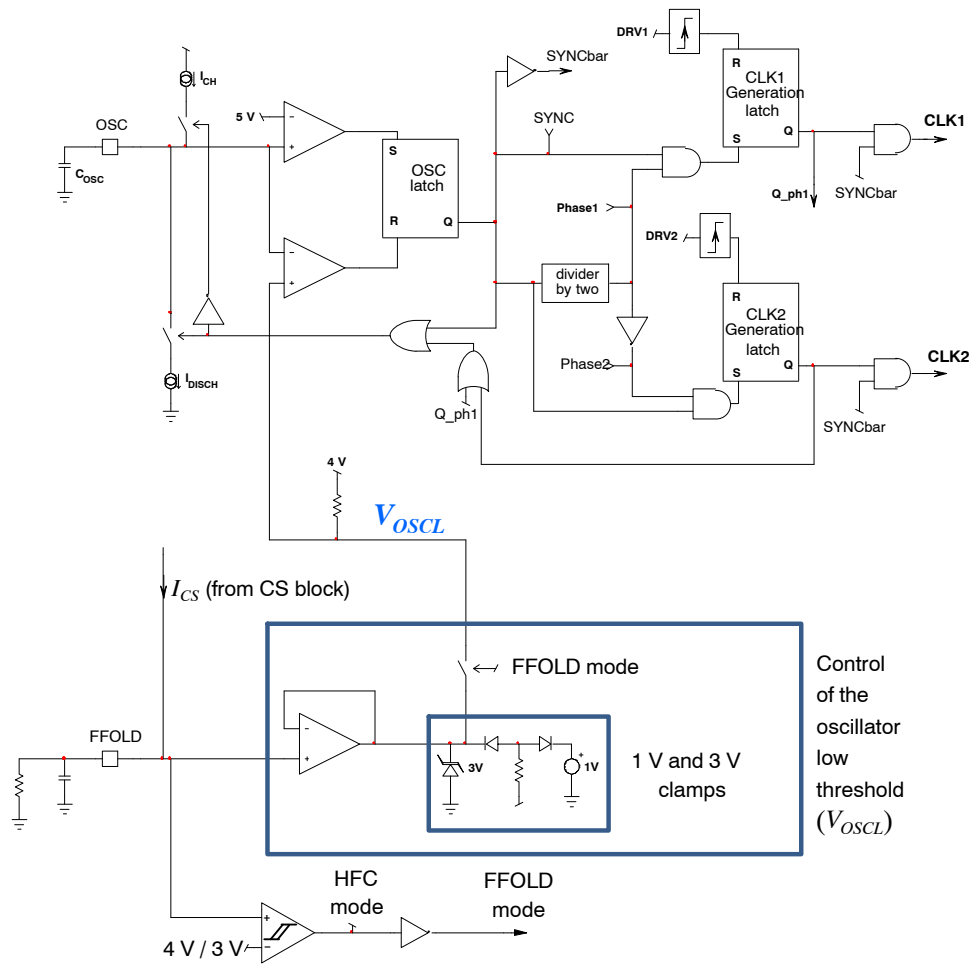
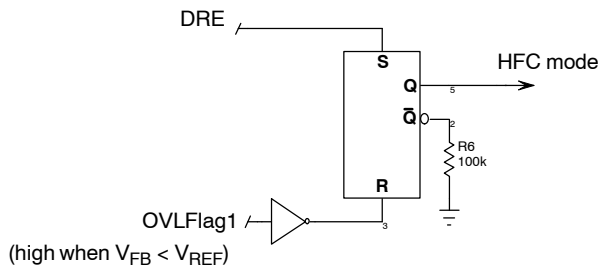
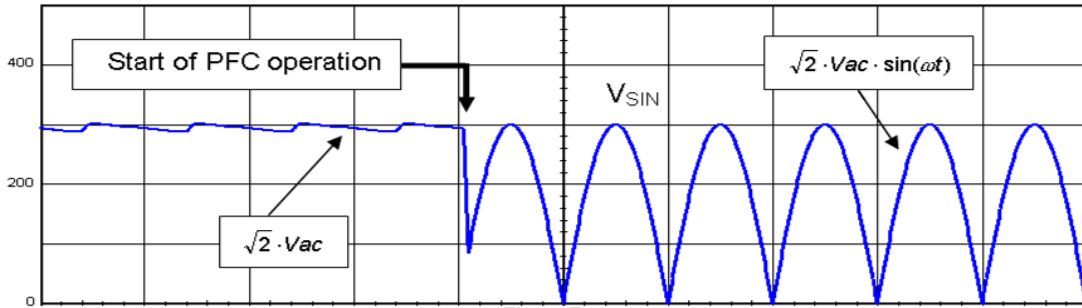

Figure 13. FFOLD Mode Management
Figure 19. Easing HFC-mode Recovery
Figure 22. Typical Input Voltage of a PFC Stage
As shown by Figure 13, a current source I_{CH} (140 μ A typically) charges the OSC pin capacitor until its voltage exceeds $V_{OSC(high)}$ (5 V typically). At that moment, the oscillator enters a discharge phase for which I_{DISCH} (105 μ A typ.) discharges the OSC pin capacitor. This sequence lasts until V_{OSC} goes below the oscillator low threshold V_{OSCL} and a new charging phase starts*. An internal signal (“ $SYNC$ ” of Figure 19) is high during the discharge phase. A divider by two uses the $SYNC$ information to manage the phases of the interleaved PFC: the first $SYNC$ pulse sets “phase 1”, the second one, “phase 2”, the third one phase 1 again... etc.
of operation, the PFC stage may run in DCM and may not be able to provide the full power. To solve this, the NCP1632 forces HFC operation whenever the DRE comparator trips* and remains in HFC mode until the output voltage recovers its regulation level (that is when *OVFlag1* of Figure 22 turns low). At that moment, the conduction mode is normally selected as a function of the FFOLD pin voltage. See Figure 19.
- ♦ Before operation, the PFC stage is off and the input bridge acts as a peak detector (refer to Figure 22). As a consequence, the input voltage is approximately flat and nearly equates the ac line